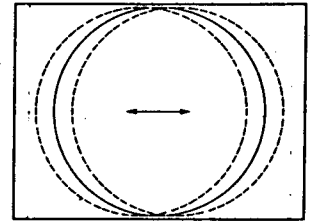

Fig. 1
- Adjust the horizontal location to obtain picture centering (fig. 1).